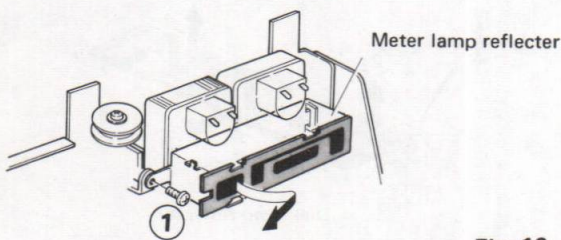

Fig. 16
- 1) Remove mounting screw (1) and pull meter lamp reflector in arrow direction to remove.
- (Refer to Fig. 16)